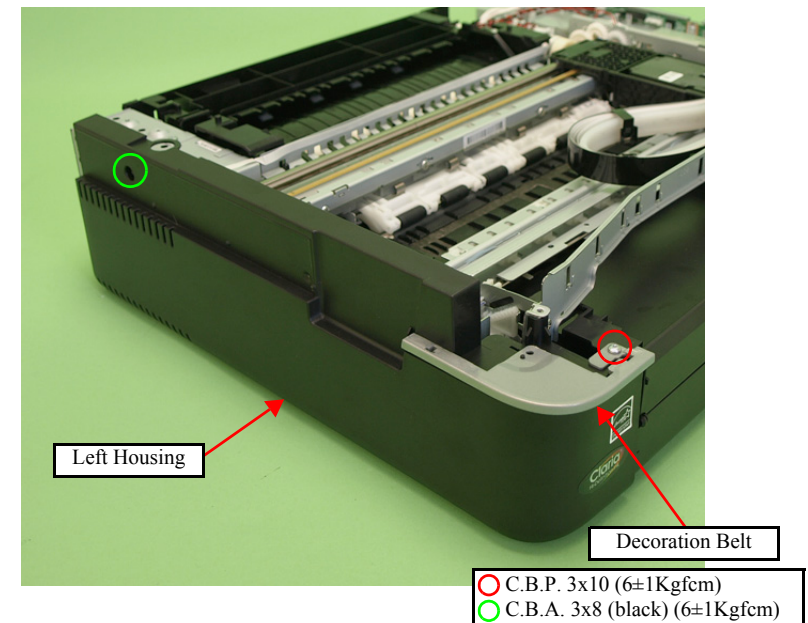

Figure 4-21. Removing the Left Housing / Decoration Belt L (1)
1. Remove the screw (x1) that secures the Decoration Belt and remove the Decoration Belt from the Left Housing. (See Fig. 4-21.)